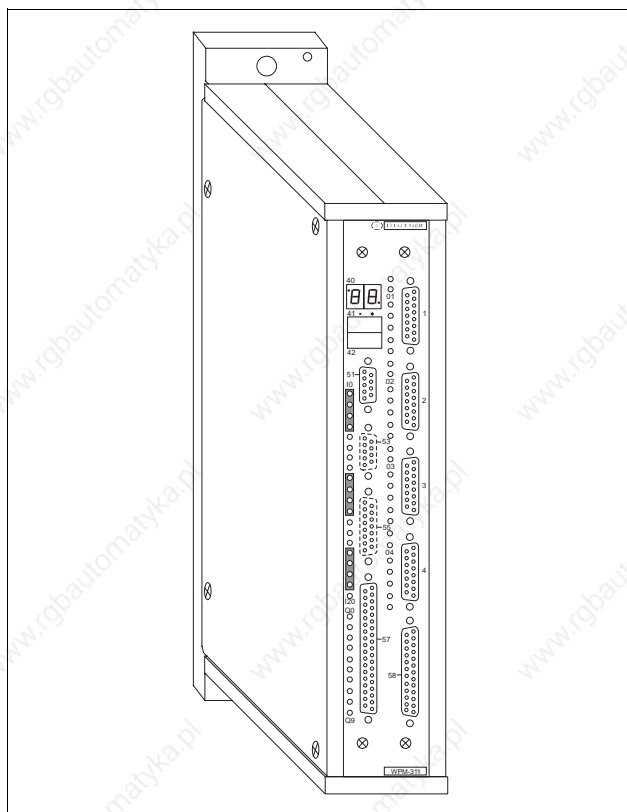

Fig. 1-2 WPM-311 in 5-phase housing
- WPM-311 in 5-phase housing (fig. 1-2), matching the 5-phase stepping motor product family